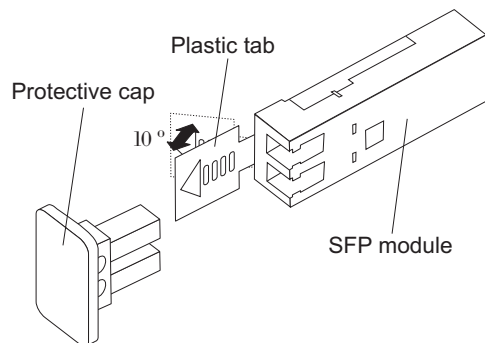

Figure 25. Unlocking the SFP module latch - plastic variety
- For SFP modules that contain plastic tabs, unlock the SFP module latch by pulling the plastic tab outward 10° , as shown in Figure 25.